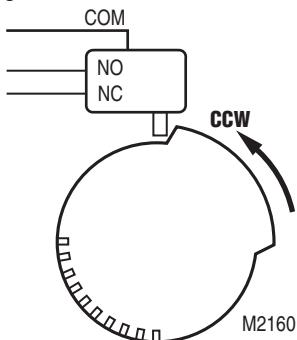

Figure 4. Switching configuration (top view) for counterclockwise rotation.
Note: With switch cam as shown in Figure 4, the normally closed contact opens during counterclockwise rotation and the normally open switch closes.
5. Move each cam inside switch assembly to the appropriate position. Remember the direction of travel of the cam for switching purposes (see Figure 4 and 5). Monitor the switch closure with an ohmmeter for a continuity check. See Table 1.